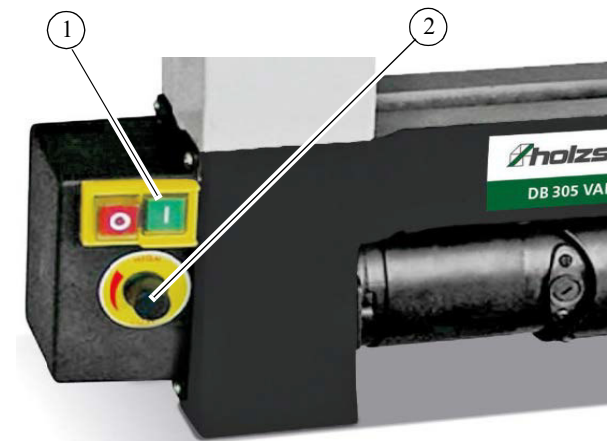

Fig. 9: Control box
Step 1: Set the switch to the ON position (item 1, Fig. 9) to start the motor. Power is supplied to the motor immediately.
The speed control (item 2, Fig. 9) can be used to set the speed according to the weight of the workpiece. Turning the rotary knob clockwise after starting the woodturning lathe increases the speed of the spindle.